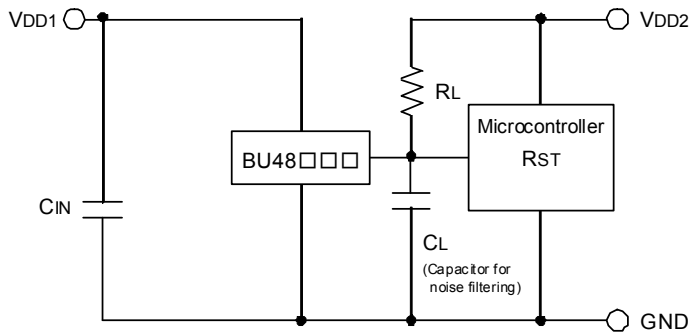

Fig.15 Open collector Output type
CASE1: The power supply of the microcontroller (VDD2) differs from the power supply of the reset detection (VDD1). Use the Open Drain Output Type (BU48□□G/FVE) attached a load resistance (RL) between the output and VDD2. (As shown Fig.15)